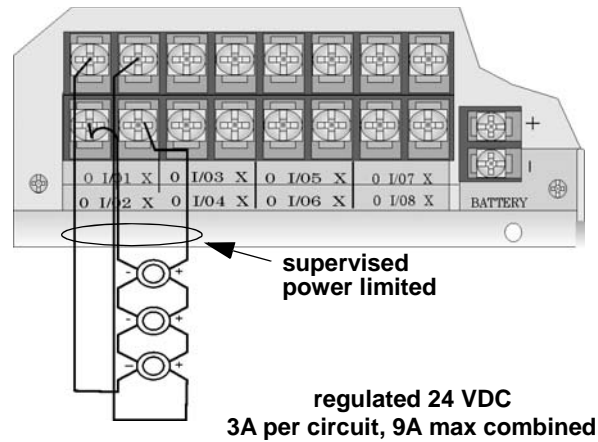

Figure 4-48 Class A Notification Appliance Circuit Configuration
- Wire the Class A notification appliances as shown in Figure 4-48.
Note: In programming any point that uses multiple Flexput circuits, the lowest Flexput circuit number is used to refer to the circuit pair. For example, Figure 4-48 uses both Flexput circuit 1 and 2, so in programming it would be referred to as point 1.